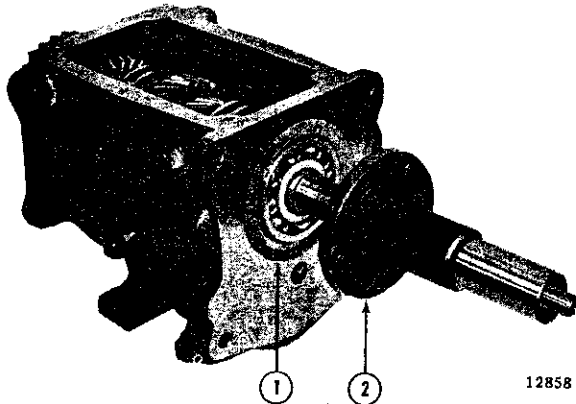

FIG. J-34—INSTALLING MAIN DRIVE GEAR BEARING RETAINER
p. Install main drive gear bearing retainer gasket, and retainer assembly. Make certain the oil drain hole slot in the retainer housing and gasket are aligned. Install the three ferry type screws and washers. Refer to Fig. J-34.